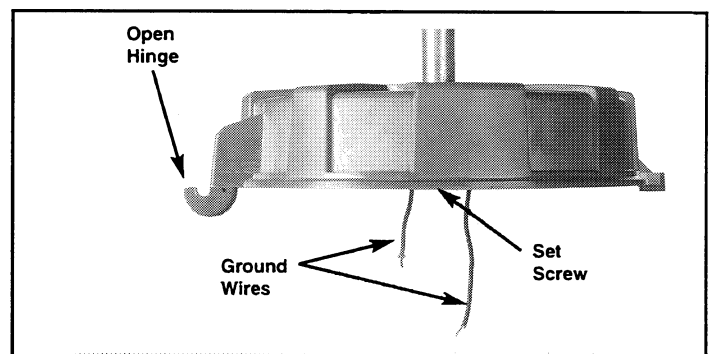

Figure 2
3. Mount the cover module in its support position - pendant, ceiling, or stanchion following methods that comply with NEC and any local codes. If pendant or stanchion mount, tighten set screw located in the conduit hub. See Figure 2.